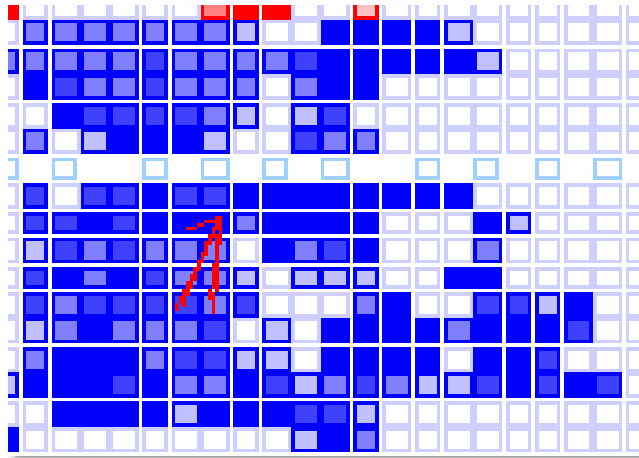

Figure 3.36. Placement Mode View
2. Change the mode to another mode to see the net in a different mode as shown in Figure 3.36.